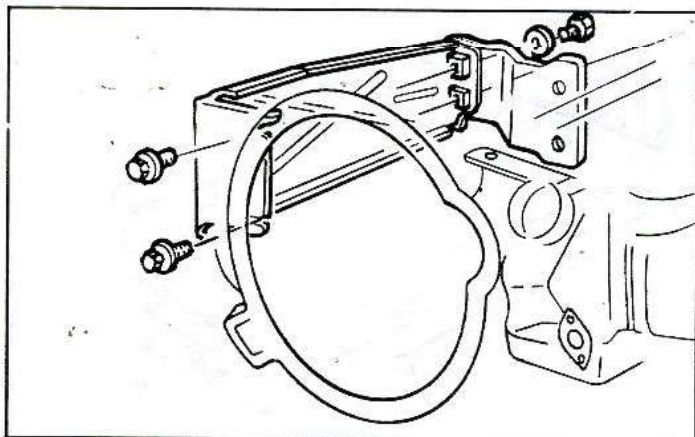

Fig. 22—Muffler Heat Shield
**Muffler Heat Shield (Fig. 22)****Removal**